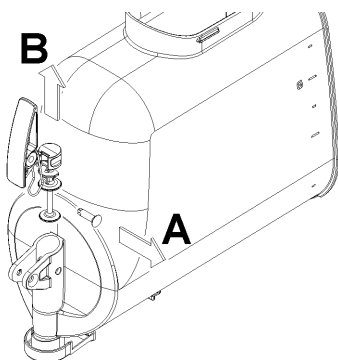

figure 14
- 5 Disassemble the tap by following the order given (see figure 14).
- 3** Reassemble the tap on the container in reverse order compared to that shown in figure 14.